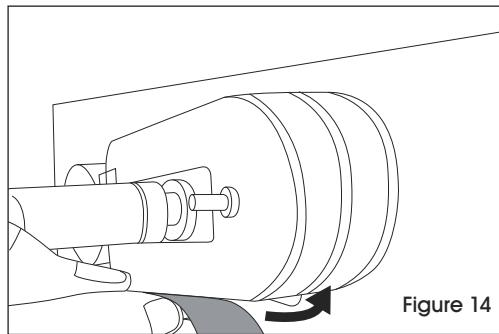

Figure 14
6. With blocks separated, align new tape with end of the heating block. (See Figure 14)